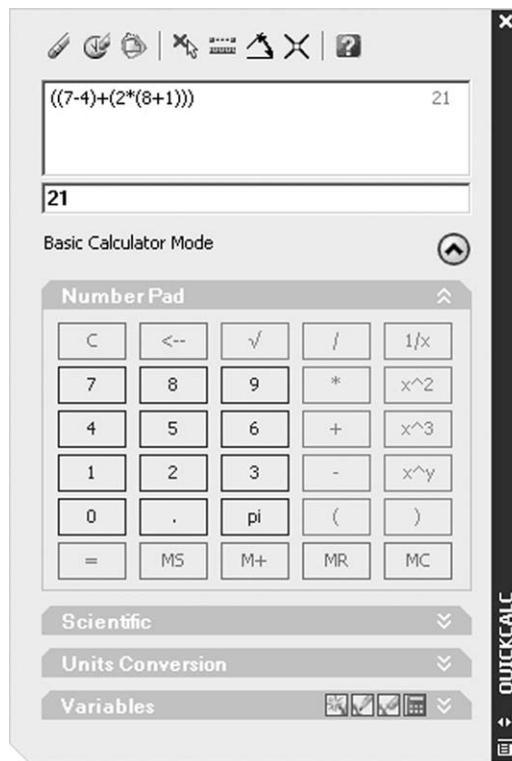

Figure 19.3 The Quick calculator.
- 2 Figure 19.3 displays the Quick Calculator which has: